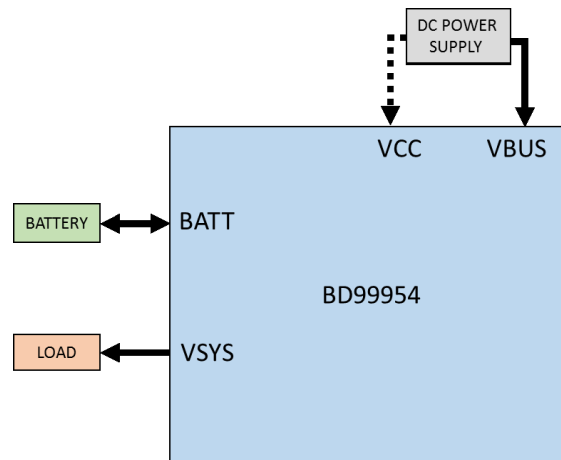

Figure 23. Set Up for Battery Charging
1. Supply the input through VBUS or VCC as shown in Figure 23. Input range is from 3.8V to 25V